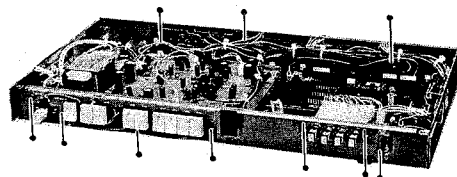
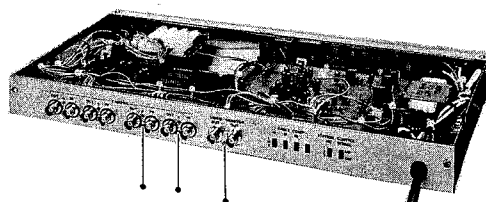

Fig. 2-5
Fig. 2-6
- Remove • point screws to remove the other boards that are the Connector Board, the Camera selector Board, the Switch Board, the Control Board, the Lock Switch Board, the LED Board. (Fig. 2-5, Fig. 2-6)